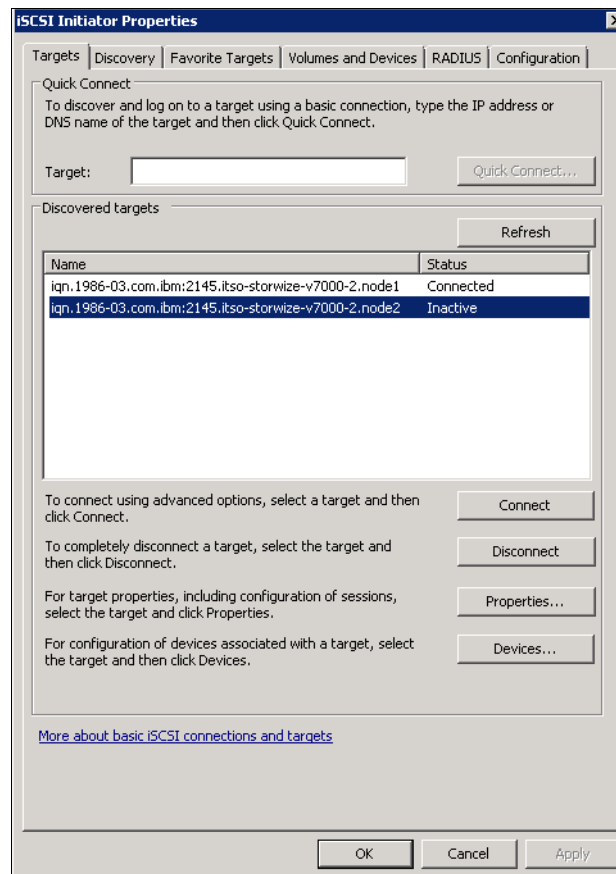

Figure 5-39 Inactive target ports
6. Return to the Targets tab (Figure 5-39); the new connection is listed there as Inactive.